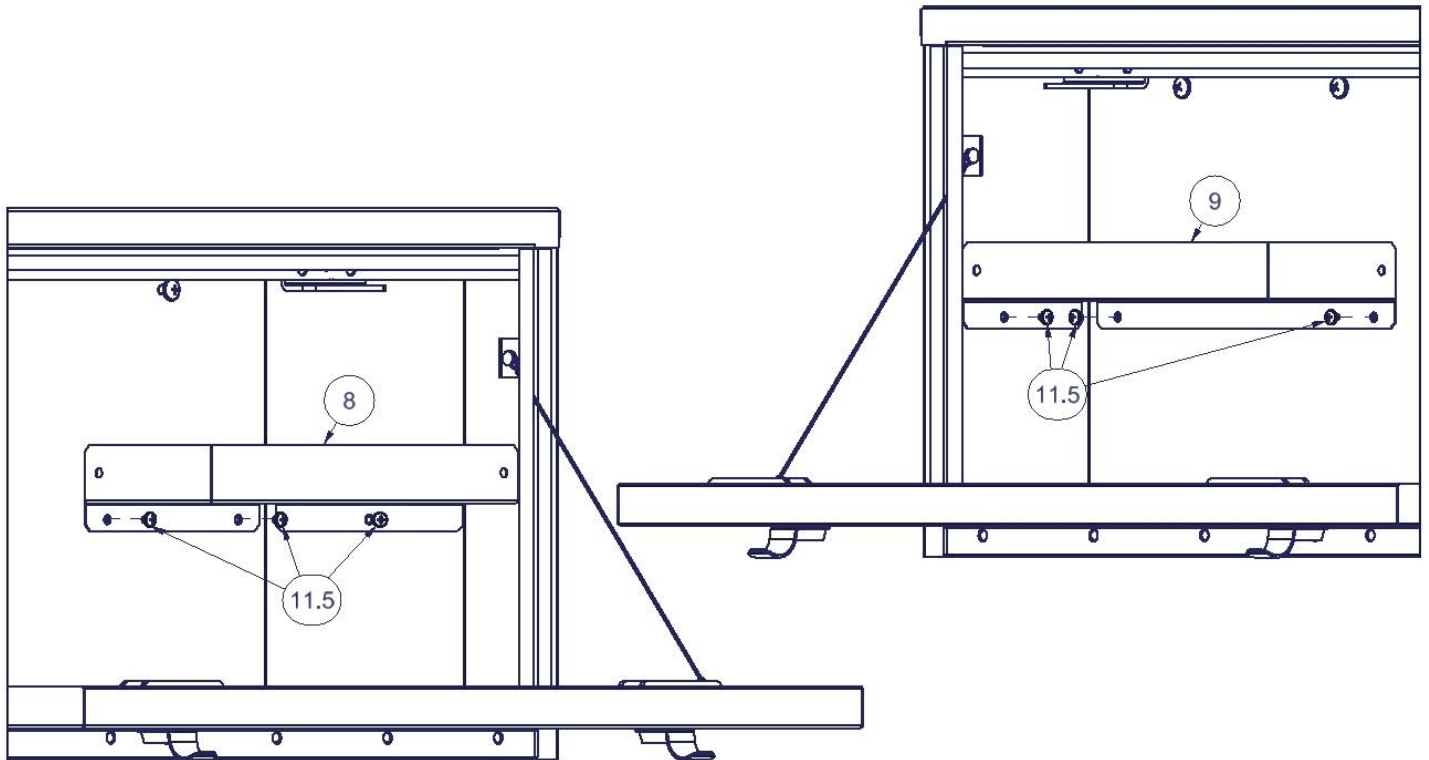

Figure 7
7. Install the removable shelves (#8 and #9) using the (6) #11.5 Machine Screws. See Figure 7